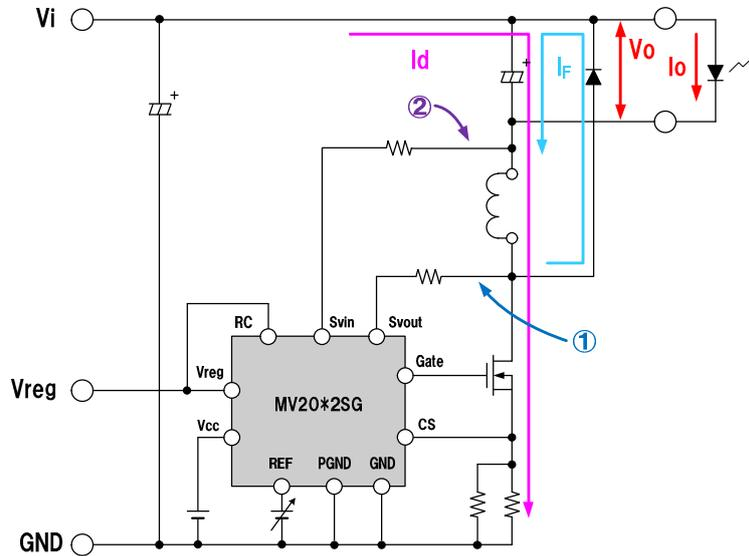
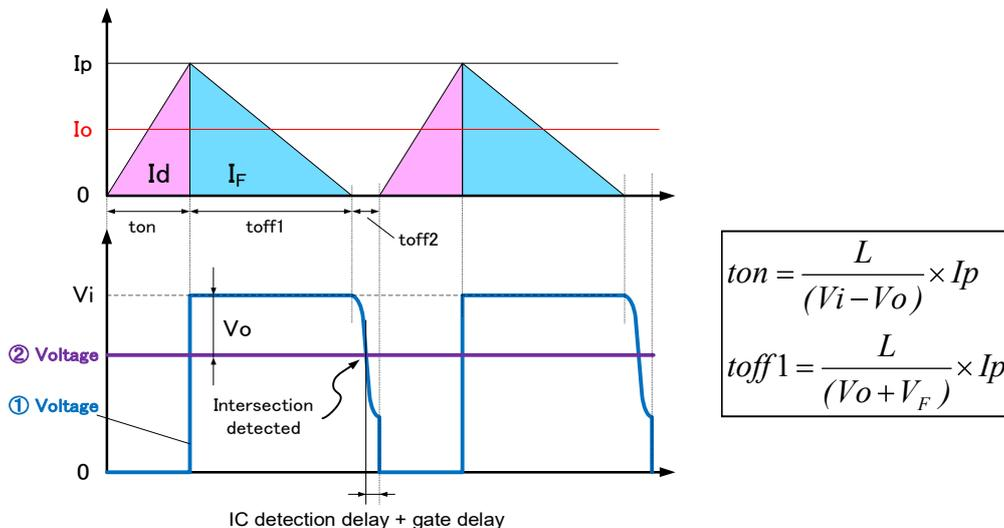
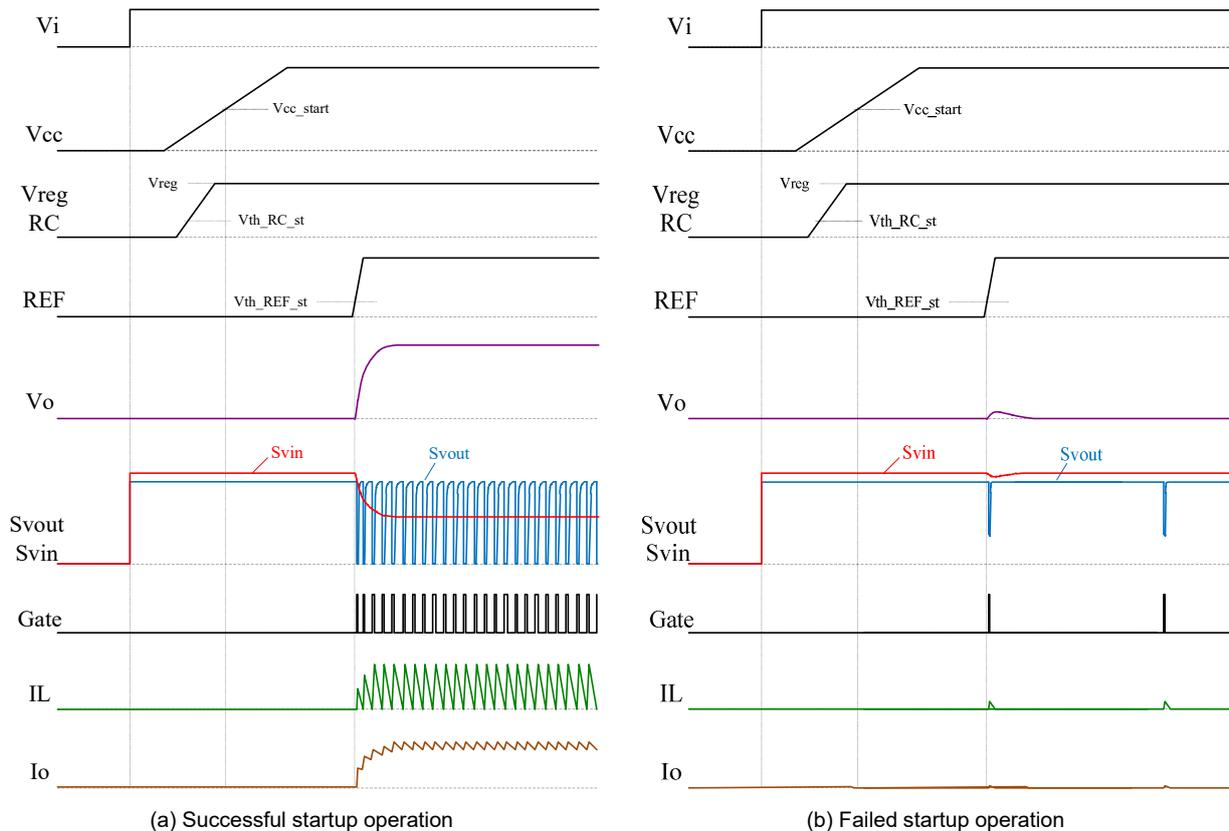

Figure 1 Current critical step-down chopper circuit
Figure 2 MOSFET and diode current waveforms for a current critical step-down chopper and voltage waveforms at both ends of the choke
Figure 3 Startup sequence examples
The MV2002SG and MV2052SG are current-critical step-down chopper control ICs, with a circuit configuration as shown in Figure 1. In Figure 2, waveforms for the current flowing through the MOSFET and diode are represented by  $I_D$  and  $I_F$ , respectively. In typical current-critical step-down chopper circuits, the MOSFET turns on after  $I_F$  becomes zero. This results in minimal diode recovery current, leading to lower losses and noise compared to PWM circuits. One downside, however, is that the oscillation frequency changes significantly with variations in output current (LED current), resulting in poorer dimming characteristics and efficiency.
The MV2002SG and MV2052SG detect  $I_D$ , converted to a voltage, via the current detection pin (CS pin). On reaching the CS reference voltage, the MOSFET is turned off (peak current detection). The ICs perform current critical control by detecting when the diode current  $I_F$  becomes zero and the  $S_{vout}$  voltage falls below the  $S_{vin}$  voltage (zero current detection), turning the MOSFET on. The voltages at both ends of the choke (① and ② in Figure 2) are divided using resistors and input to the  $S_{vin}$  and  $S_{vout}$  pins to achieve current critical control without auxiliary windings. Additionally, the off-time modulation function keeps the frequency from increasing during dimming to ensure consistent efficiency and dimming characteristics even during deep dimming. (Refer to "5. Dimming Characteristics" on page 24.)
Figure 3 shows startup sequence examples for the circuit configuration shown in Figure 1.
In the normal startup operation, oscillation starts when the RC pin voltage  $V_{RC}$  is equal to or exceeds the oscillation start RC pin threshold voltage ( $V_{th\_RC\_st}$ ), the Vcc voltage is equal to or exceeds  $V_{cc\_start}$ , and  $V_{REF}$  is equal to or exceeds the oscillation start REF pin threshold voltage ( $V_{th\_REF\_st}$ ). Once oscillation starts, as the output voltage rises, the Svin voltage intersects the Svout voltage, enabling zero current detection. (Figure 3 (a) Successful startup operation)
In situations where charging the output capacitor is difficult—for example, when the gate resistor R13 (R23) has a high resistance or when the dummy resistor connected in parallel with the LED has a low resistance, the output voltage may not rise after oscillation begins, and zero current detection may not be possible. If zero current detection is not possible, the IC forcibly switches over to the restart operation using the minimum on-time and restart time instead of the normal peak current detection. The restart operation continues until zero current detection is possible. Thus, startup is not achieved unless the output voltage increases during the restart operation. (Figure 3 (b) Failed startup operation)